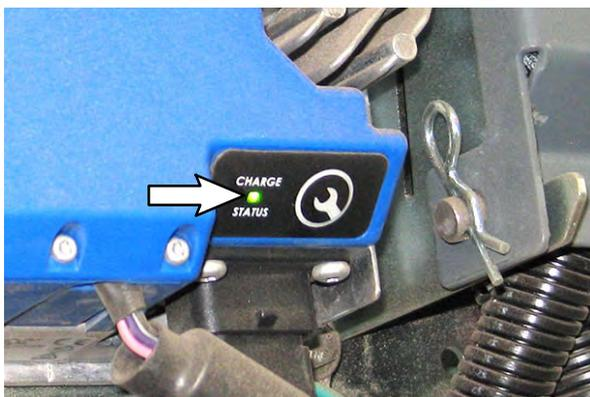

FIG. 64
64. View the flashing battery charging status indicator light sequence to identify the profile in use. (Fig. 64)